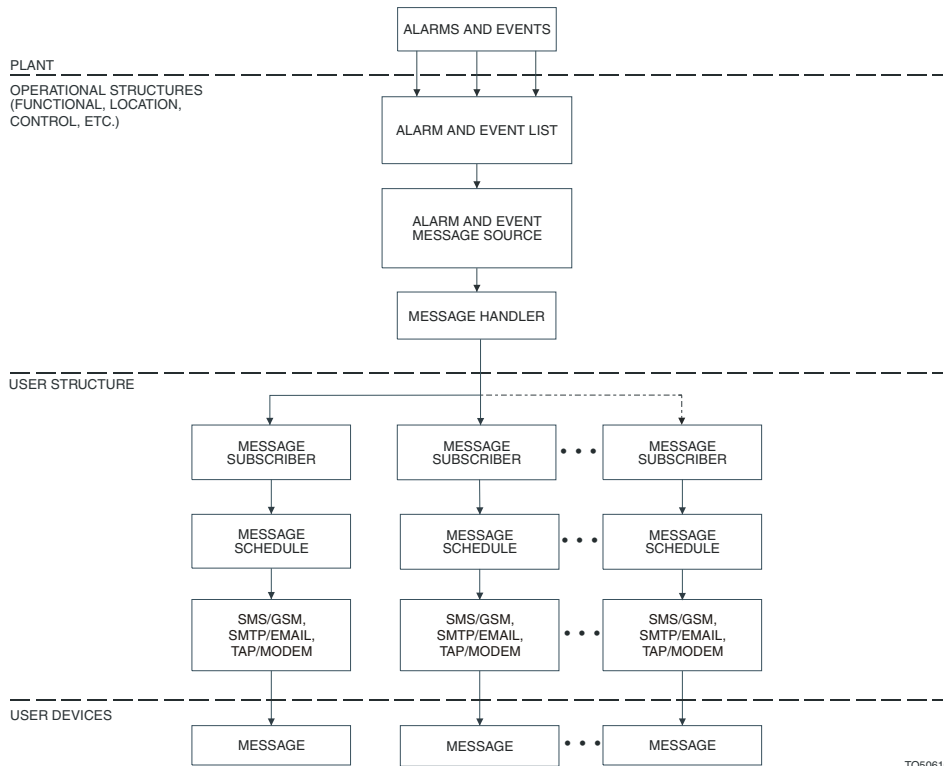

Figure 173. Block Diagram
- **TAP/Modem** - uses Telocator Alphanumeric Protocol (TAP) to send messages based on alarm and event information to the pager service provider's Central Paging Terminal over a land telephone line. The Central Paging Terminal sends the message to compatible devices of users configured to receive them. A block diagram of SMS and e-mail Messaging is shown in Figure 173.